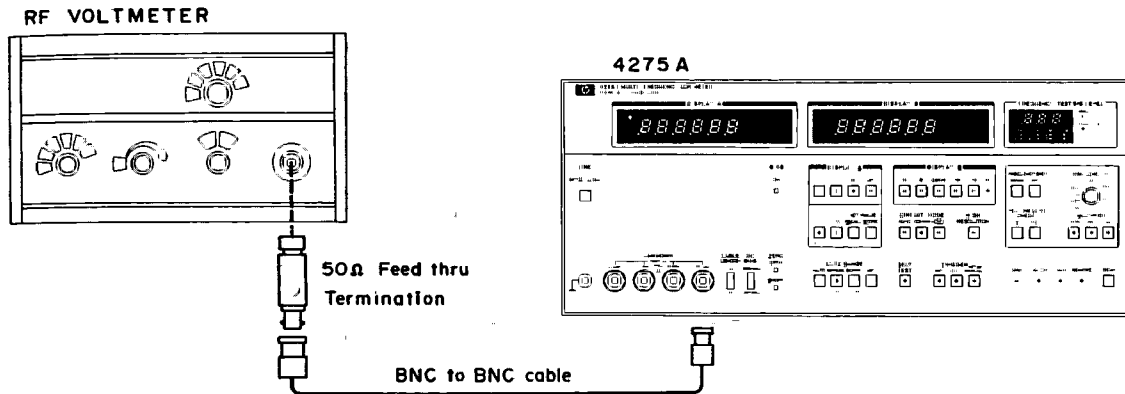

Figure 5-4. Test Signal Level Flatness Adjustment Setup.
1. Connect a 50Ω feed through termination between 4275A UNKNOWN H CUP terminal and RF voltmeter input using a BNC to BNC cable. See Figure 5-4.